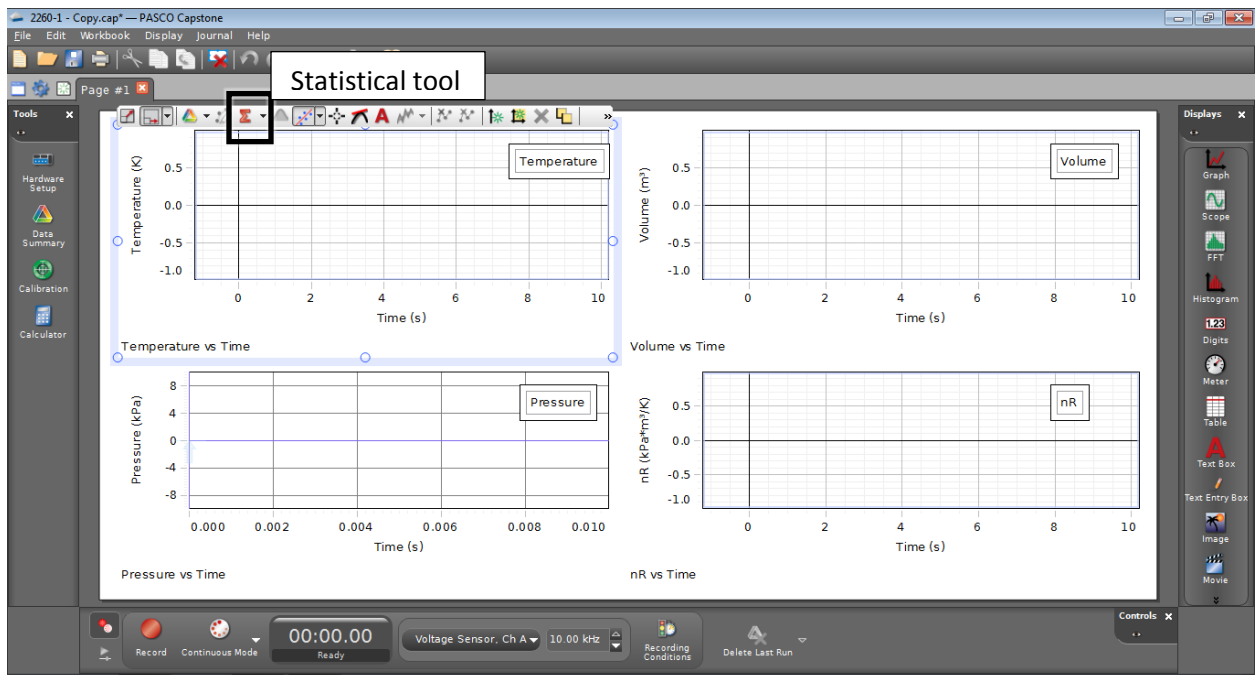

Figure 4 – Example of Graphical display
2. Repeat step 2 for Volume and Temperature. In this way, graphs of Pressure, Volume and Temperature will all be displayed with a common time axis. (Figure 4)